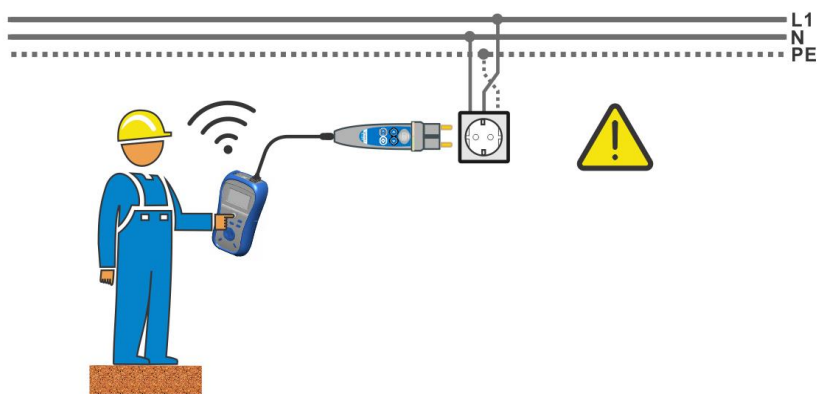
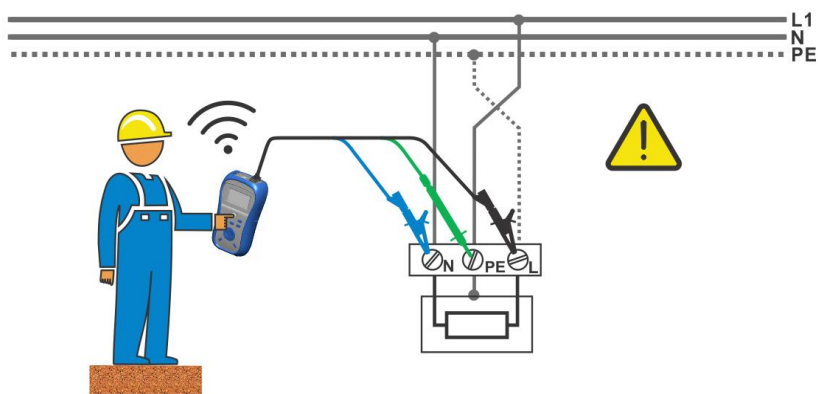

Figure 5.36: Reversed L and PE conductors (application of plug commander)
Figure 5.37: Reversed L and PE conductors (application of 3-wire test lead)
- ❑ **Connect** test leads to the item to be tested (see Figure 5.36 and Figure 5.37).